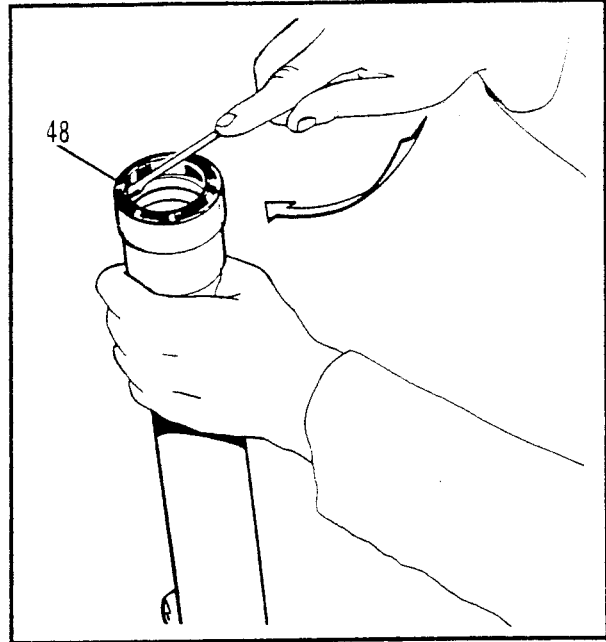

Figure 5-15. Dust Cap Removal
- See Figures 5-15. Carefully pry the dust cap (48) from the top of the slider with a screwdriver, and remove the washer.